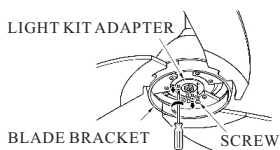

FIG.13
1. Remove 1 of 3 screws on light kit adapter, and loosen the other 2 screws. (See Fig.13)